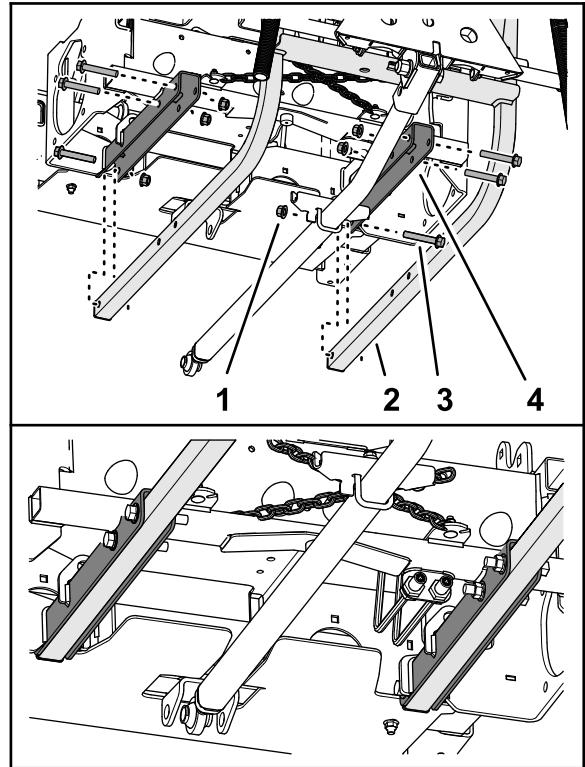

Figure 12
4. Lift the back of the rear attachment lift frame to align the holes in the lift-frame tubes with the holes in the channels of the rear frame (Figure 12).